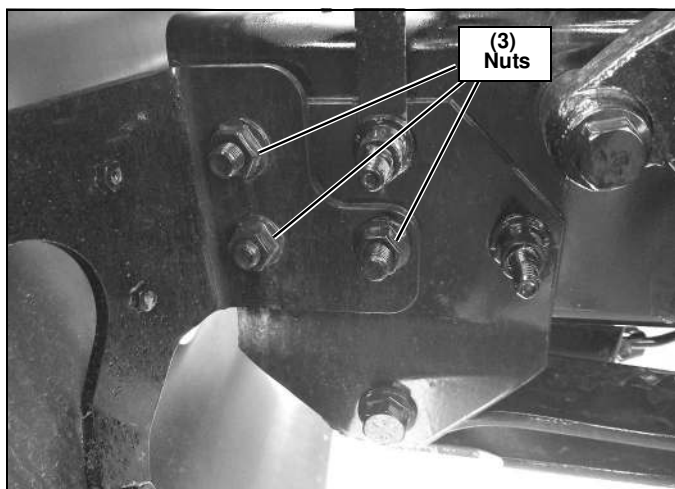

Figure 1
1. Remove the three nuts holding the driver side of the bumper to the frame and replace the bolts with (3) 5/8"-11 x 4-1/2" Cap Screws (#9). (See Figure 1.)